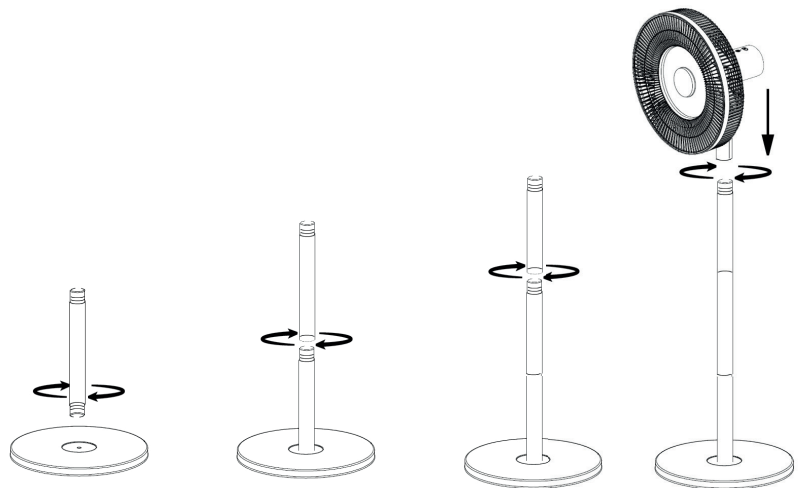

Fig. 1
1. Take out the parts from the package. Install the standing pipe (down-middle-up) as the following steps. (Fig. 1 shown)